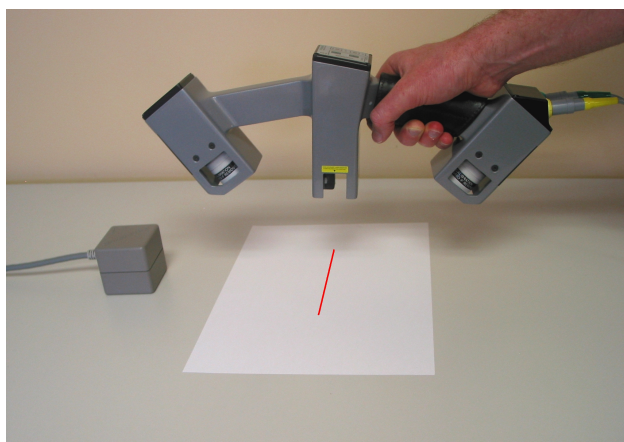

Figure 31: Procedure for performing an Alignment Check.
5. With the trigger pulled fully in lift the Wand vertically off the sheet at a constant rate. Note the arrangement of Wand, Transmitter and test paper as shown in Figure 31.